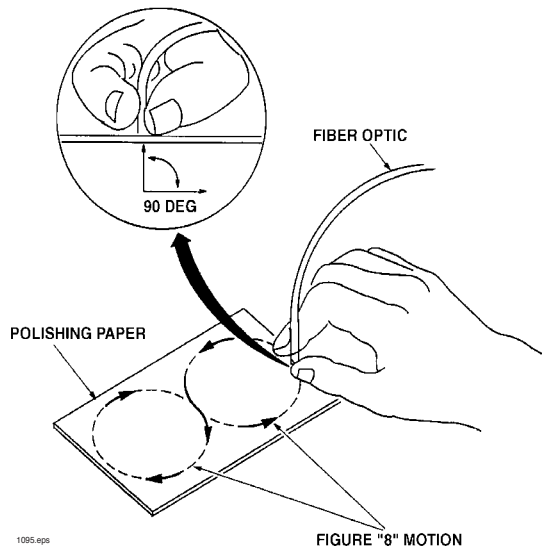

Figure 2. Pattern and orientation of the optical fiber during polishing.
2. Wet the 2000-grit polishing paper with water or light oil and place it on a flat, firm surface. Hold the optical fiber upright at right angles to the paper, and polish the fiber tip with a gentle "figure-8" motion as shown in **Figure 2**. You may get the best results by supporting the upright fiber against some flat object such as a portion of a printed wiring board or square block.